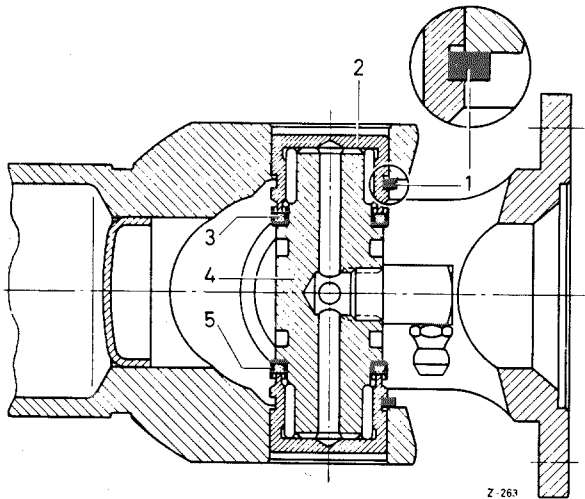

Fig. 41 — 4/5
32. Press out the four crescent-shaped snap rings (1) from the four needle bearing bushings (2) of the spider (Fig. 41 — 4/5).